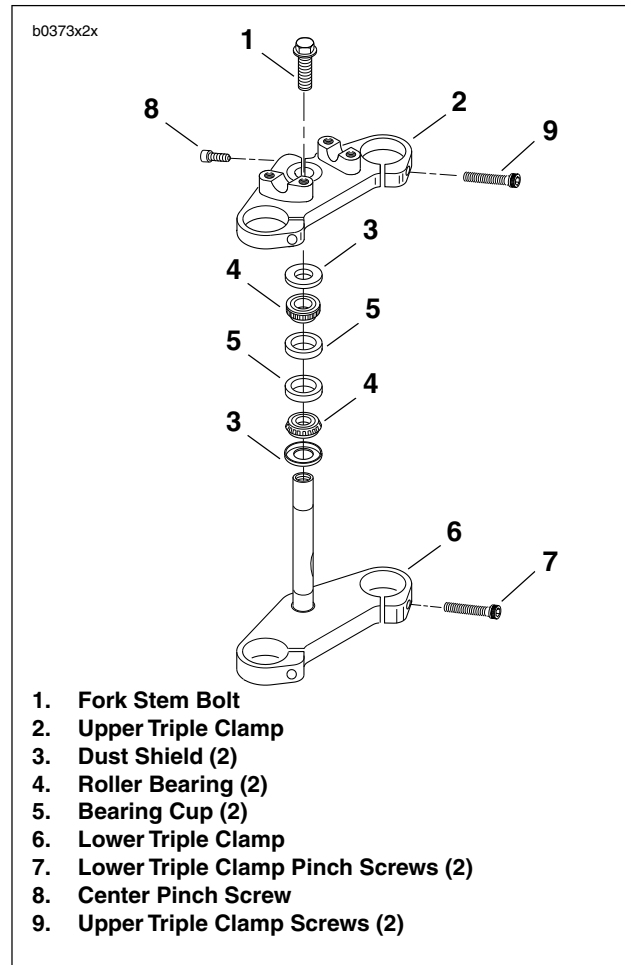

Figure 1-36. Steering Head Assembly
7. See Figure 1-36. Loosen both pinch screws (7) on lower triple clamp.
8. Loosen small pinch screw (8) on upper triple clamp.
9. Tighten or loosen fork stem bolt (1) to set proper tension.
11. Tighten both lower triple clamp pinch screws (7) to 18-20 ft-lbs (24-27 Nm).